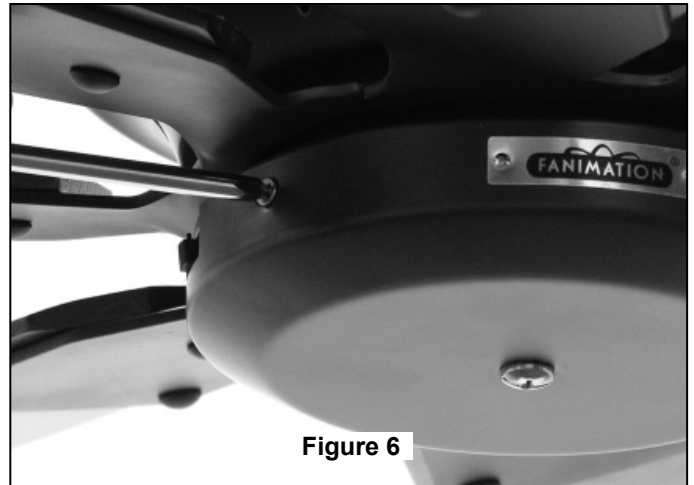

Figure 6
10. Assemble the Housing Switch Cup onto the assembled Adapter with three screws. (Figure 6)